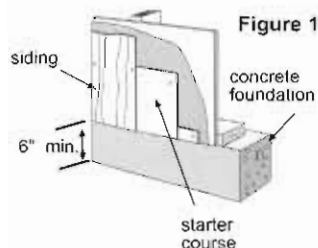

Figure 1
- When installing James Hardie products all clearance details in figs. 1, 2, 3, 4, 5, 6 & 7 must be followed